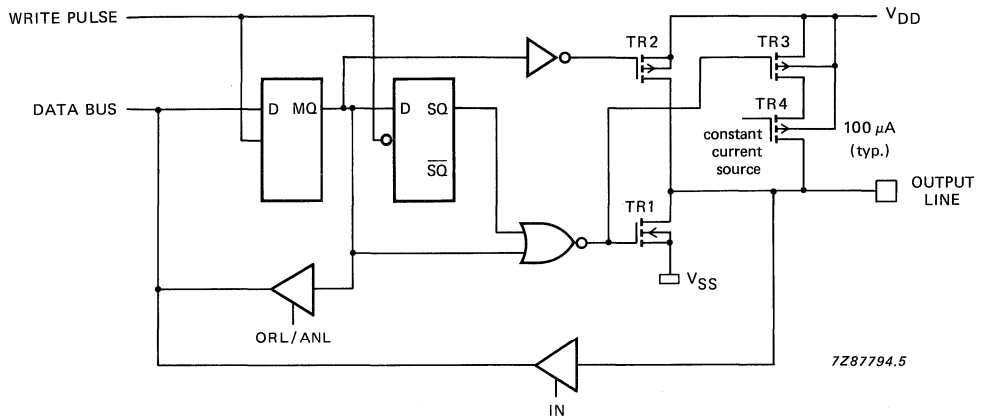

Fig.12 Push-pull output.
- Option 3 **PUSH-PULL OUTPUT**; drive capability of the output is 1.5 mA (typ.) at  $V_{DD} = 3\ \text{V}$  in both polarities. To avoid a large current flowing through the output transistors during the input mode, these push-pull pins must only be used as outputs (see Fig.12).